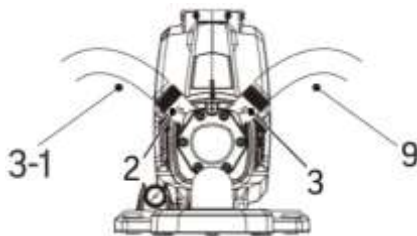

Fig. 3
2. Attach an inlet hose (#9) (not included) to the pump intake port (#3) (Fig. 3).